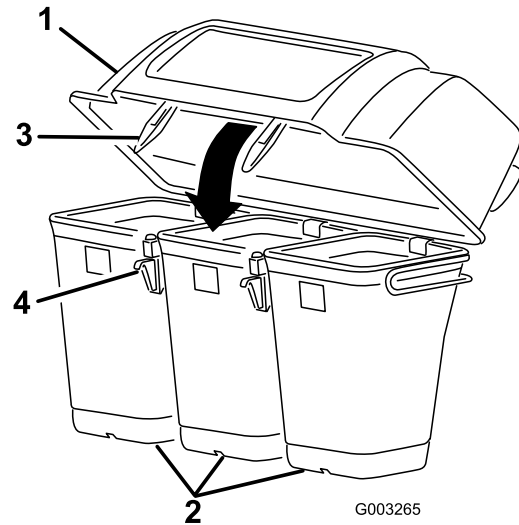

Figure 10
4. Lower the bagger hood over the bags (Figure 10).